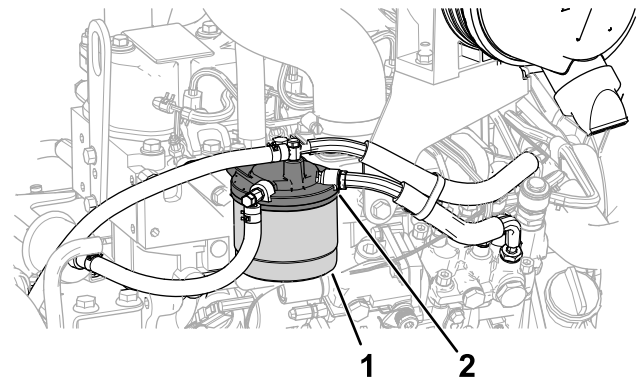

Figure 60
2. Remove the filter and clean the filter head mounting surface (Figure 60).
1. Clean the area around the fuel-filter head (Figure 60).